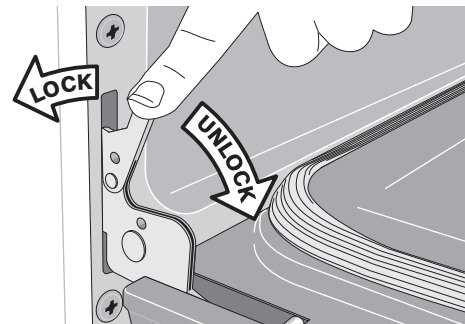

Figure 22: Hinge lock/unlock positions
2. Pull the door hinge locks on both left and right door hinges down from the oven frame completely towards the oven door (Figure 22). A tool such as a small flat-blade screwdriver may be required.
4. Push the door hinge locks up towards and into the oven frame on both left and right oven door hinges (Figure 22) to the locked position; then, close the oven door.